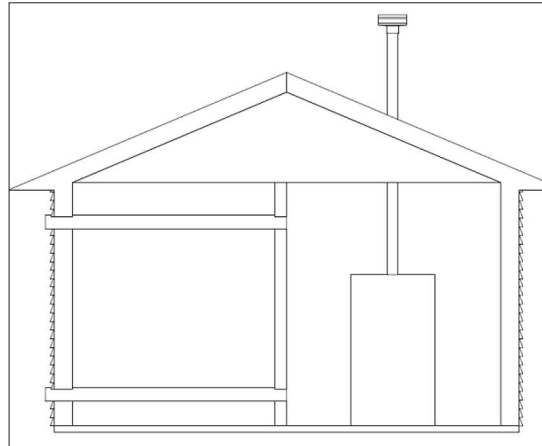

Figure 27 - Combustion Air through Ductwork
2. If combustion and ventilation air is taken from the outdoors using a duct to deliver the air to the mechanical room, each of the two openings should be sized based on a minimum free area of one square inch per 2000 BTU/hr input. See Figure 27.